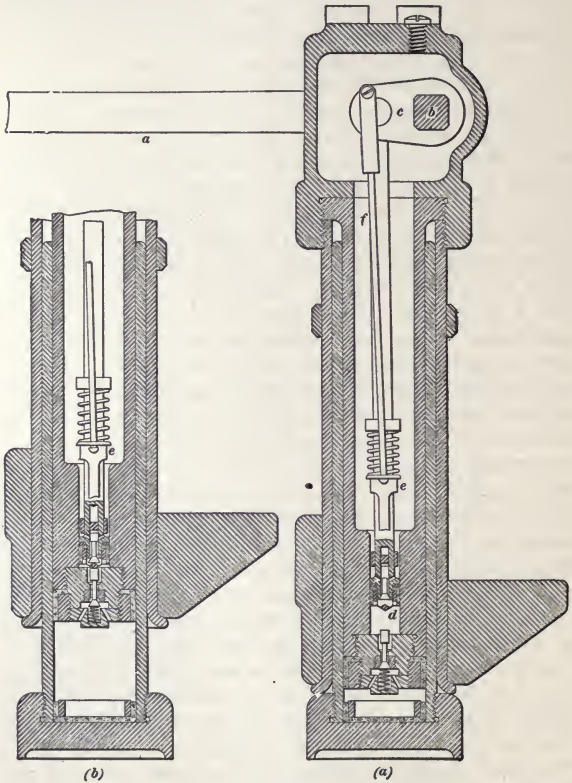

FIG. 10.
19. A **Watson-Stillman hydraulic jack** is shown in section in Fig. 10 (*a*). In this illustration, a is a lever that is depressed by the operator when he desires to raise the load. This lever freely fits a rectangular hole or socket in a shaft b that extends clear through the ram head. The shaft b carries the crank c to which the piston d is hinged. A small valve is placed in the center of the piston and serves to open or close communication between the water space above and below the piston. The lower end of the ram is fitted with a small check valve, which normally is held closed by the small spring shown beneath the valve. The inside of the jack is filled with a mixture of alcohol and water, about 2 parts of alcohol to 3 parts of water, which prevents the freezing of the liquid when the jack is used in cold weather. The operation is as follows:
The jack being clear down, as shown in Fig. 10 (*a*), it is placed under the load and the operator alternately depresses and raises the lever through its full range, the motion being limited by a projection on the under side of the lever. The slightest depression of the lever closes the valve in the piston. The downward movement of the piston continuing, the water between the bottom of the piston and the end of the ram is subjected to a pressure that opens the valve in the end of the ram. This allows the water under pressure to pass into the space beneath the ram. The pressure so transmitted to the lower end of the ram forces it upwards. The lever having been depressed to its limit is again raised. This raises the piston, causes the piston valve to open, and allows the water above the piston to flow beneath it. The pressure of the water below the ram promptly closes the ram valve as soon as the piston commences to move upwards. The operation may now be repeated as often as required.
In order to lower the ram, the lever is withdrawn from its socket and inserted again with the projection upwards. It can now be depressed far enough to cause the end of the piston to strike and open the ram-head valve, as shown in Fig. 10 (*b*), where the parts of the jack are shown in the relative positions occupied while lowering. But before the water in the bottom of the ram can escape to the top, the valve in the piston must also be opened. This is accomplished by a heavy spring that forces the sleeve *e* downwards. The lower end of the sleeve has a cotter working in a slot in the piston rod; the cotter bearing against the top of the valve forces the latter downwards. The sleeve is connected to the crank *c* by the so-called lowering wire *f*, in such a manner that the cotter will not strike the piston valve while the jack is raising the load. The ram will descend as long as the lever is kept hard down; it can be stopped instantly by raising the lever slightly.